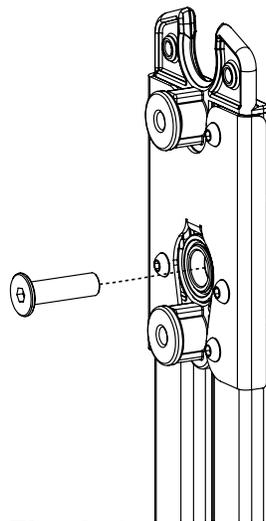
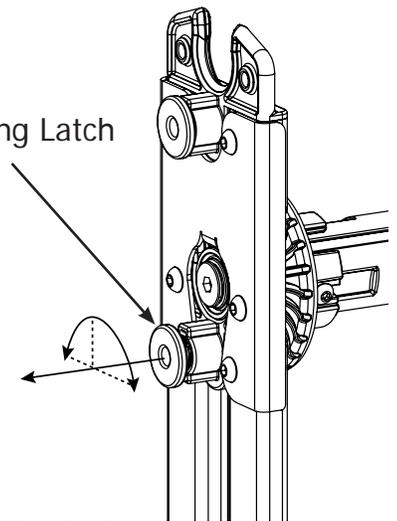

Fig. 3-1
Fig. 3-2
3-1: Insert rail ends into plastic wheel bearing for both ends of the frame (Fig. 3-1).
3-2: Fasten the (2) M10 x 35mm Connector bolts into the rail ends with a 6mm Allen Wrench (Fig. 3-1).
Note: The rail assembly in Fig. 3-1 and 3-2 has been converted from a take up rail to an idler rail. To have a free rolling idler rail, simply pull the rotating latch out and rotate quarter turn to disengage (Fig. 3-2).